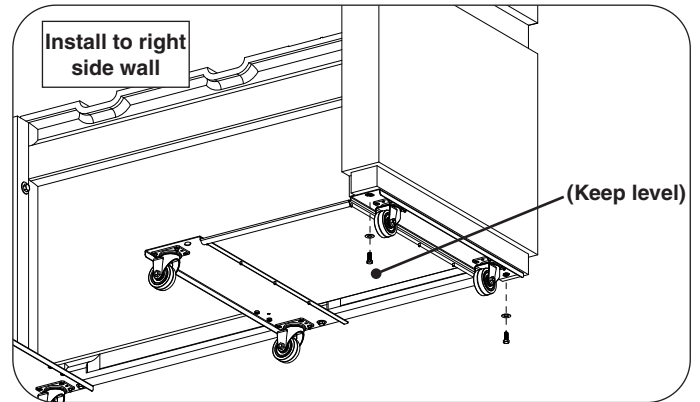

Fig. 3-1 Install right wheel assembly to bottom of right side wall
3. Repeat for the right side wall using the right wheel assembly as shown in Fig. 3-1.